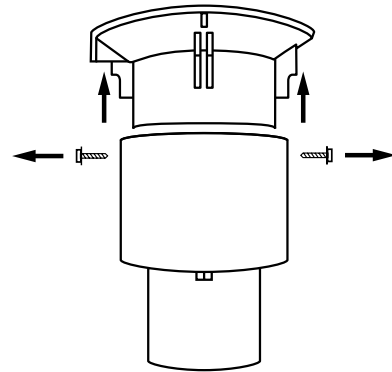

FIGURE 4 FIGURA 4
1. The vent screen can be removed without removing the vent from the vent pipe. Remove the two screws in the side of the body. See figure 4.